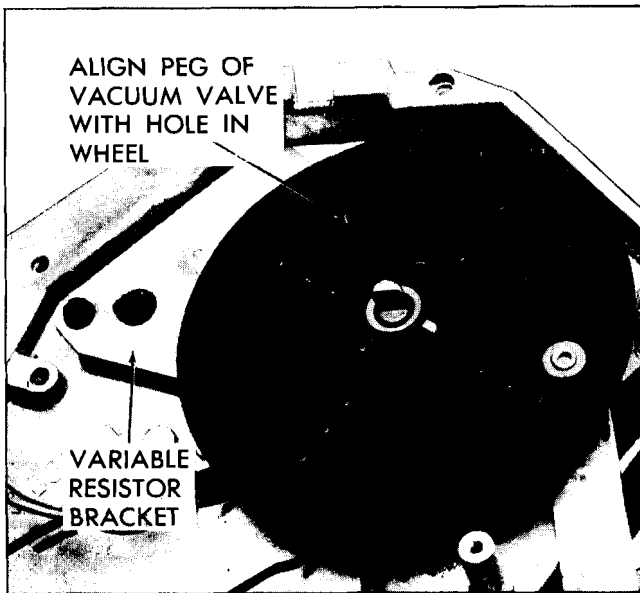

Fig. 1B-65 Aligning Vacuum Valve With Track In Programmer Wheel
2. Install programmer wheel so that peg on vacuum valve is visible through alignment hole in wheel (Fig. 1B-65). It may be necessary to move the vacuum valve slightly to accomplish this.